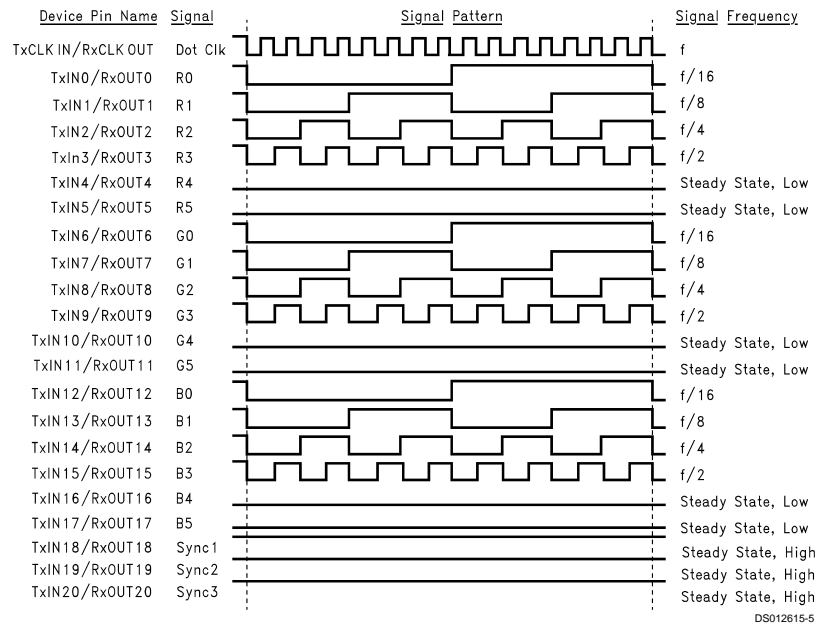

FIGURE 2. "16 Grayscale" Test Pattern
**Note 9:** Figure 1 and Figure 2 show a falling edge data strobe (TxCLK IN/RxCLOCK OUT).